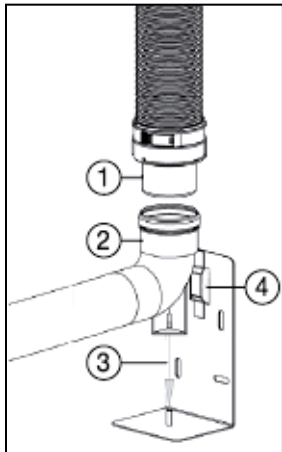
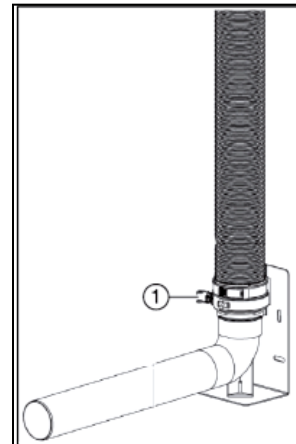

Figure 7 – Installation of Support Elbow
Figure 8 – Securing the Support Elbow
11. After installing the required length of liner, remove the mounting aid by rotating $\frac{1}{4}$ turn counterclockwise (-). Then attach the rigid-flex adapter into the support bend. See Fig. 7.
a. Position the support elbow on the support bracket (see 2 and 3, Fig. 7).
b. Secure the support elbow with the clamp (see 1, Fig. 8) around the flex-rigid adaptor (see 1, fig 7) and through the slot of the support console (see 4, Fig. 7).